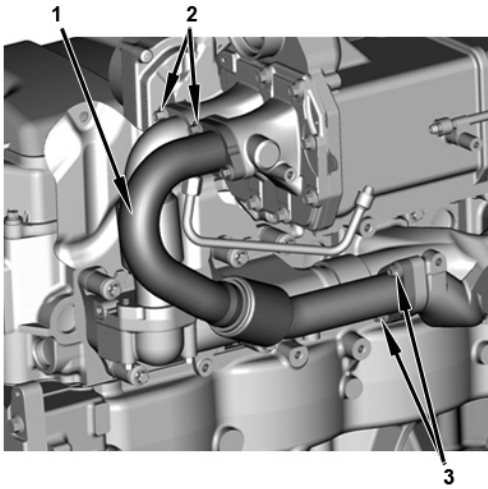

Figure 31 EGR Inlet Tube (Outside)
8. Install new EGR inlet tube (1). Install four M8 x 25 heat-resistant bolts (2) and torque to 18 lb-ft (24 N•m) (Figure 31).